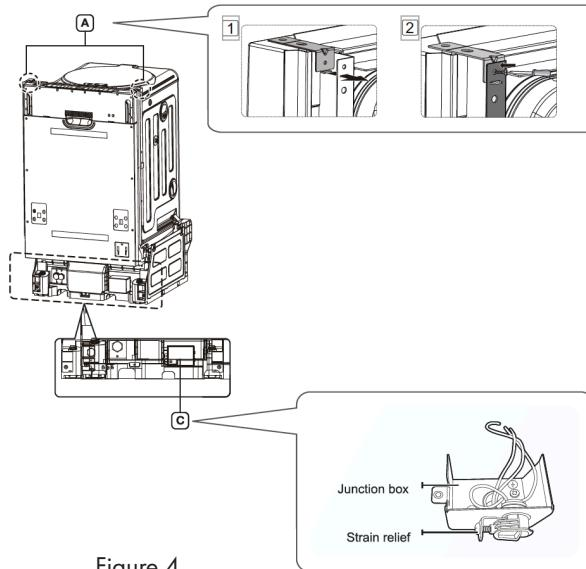

Figure 4
2. Remove the junction box cover located at the bottom front right of the dishwasher using a screwdriver, and then install the strain relief (Figure 4 - C). Make sure to keep the junction box cover you removed. It is used in Step 11, Wiring Connections.
3. If the countertop is made of wood or a material that is not damaged by drilling, attach the two installation brackets that were supplied with the dishwasher using the supplied screws (Figure 4 - A). They will be used in Step 9, Securing the Dishwasher